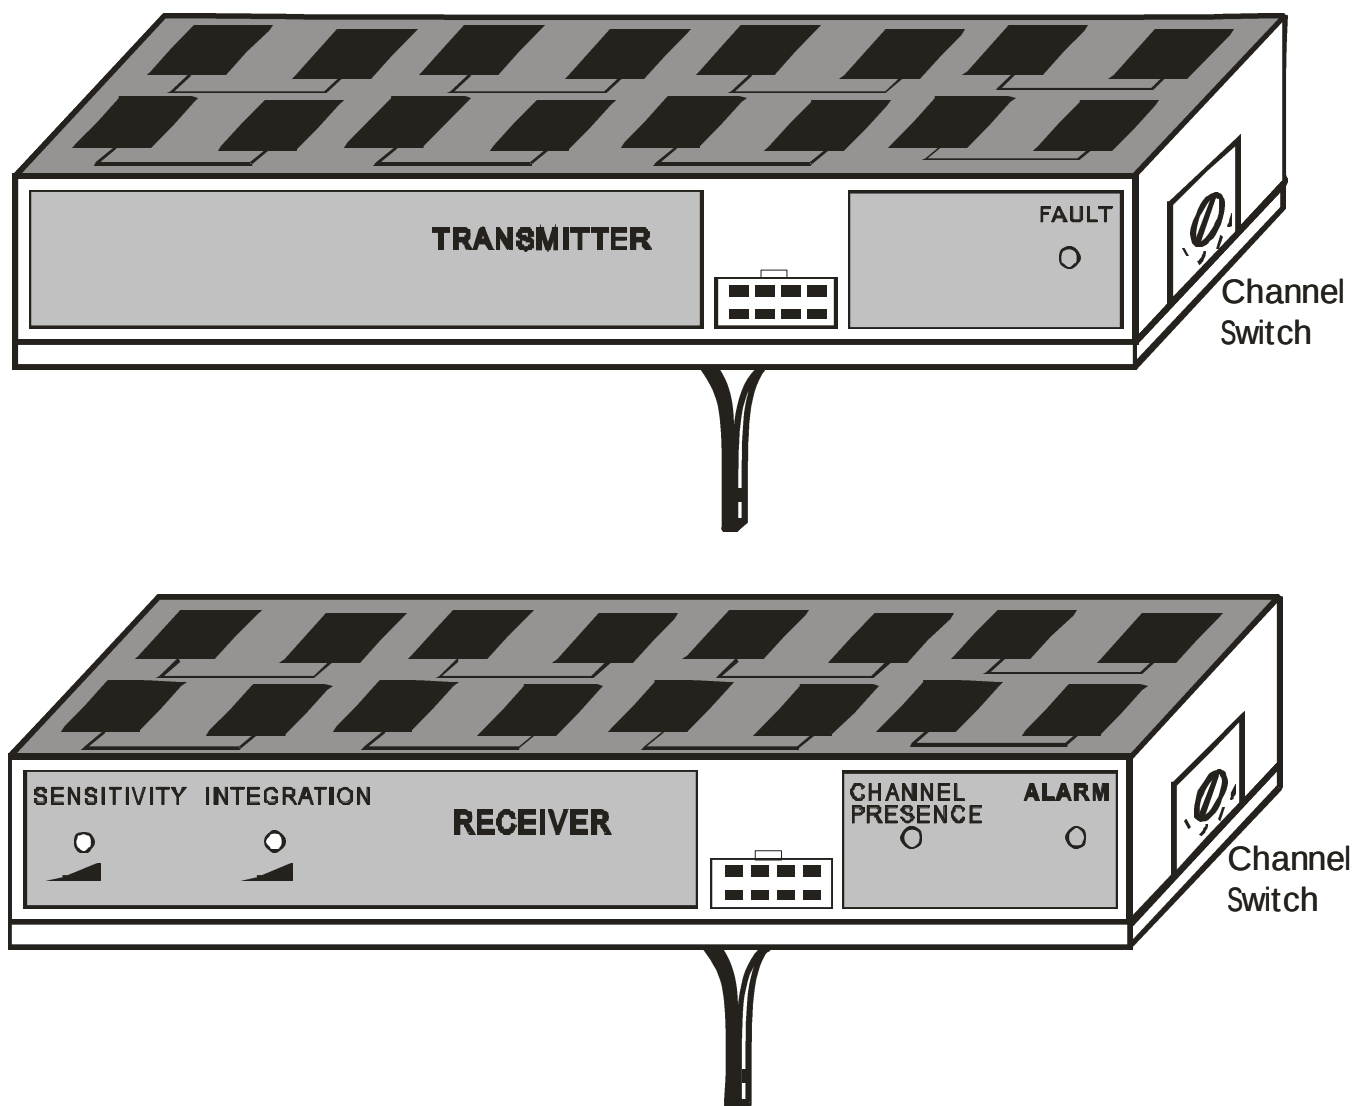

Fig. 3
- 3.2.3** – Press the test selection key “ $\uparrow$ ” (10) till the battery voltage test LED “**+13,8V**” (4) lights up. The voltage read on display (2) must be 13.8 Vdc + 10%. If the equipment sight pointing has been properly carried out the “CHANNEL PRESENCE” LED (acknowledging the channel) should light up on the RF RX module (fig. 3). In order to optimise the link proceed to electronically point in the following manner:
3.2.14 – Press key “ $\updownarrow$ ” (10) till the Sensitivity Measurement LED “**sens Rx/Tx**” (6) lights up. Operate on the “SENSITIVITY” trimmer present in module RF RX (fig. 3) till a value within 0 and 9 Vdc is read on the display. Note that the value of 0 Vdc corresponds to the maximum sensitivity, and that value 9 Vdc corresponds to the minimum sensitivity.**3.2.15.** –Adjust the “INTEGRATION” trimmer on module RFRX (fig. 3) till obtaining the required integration.